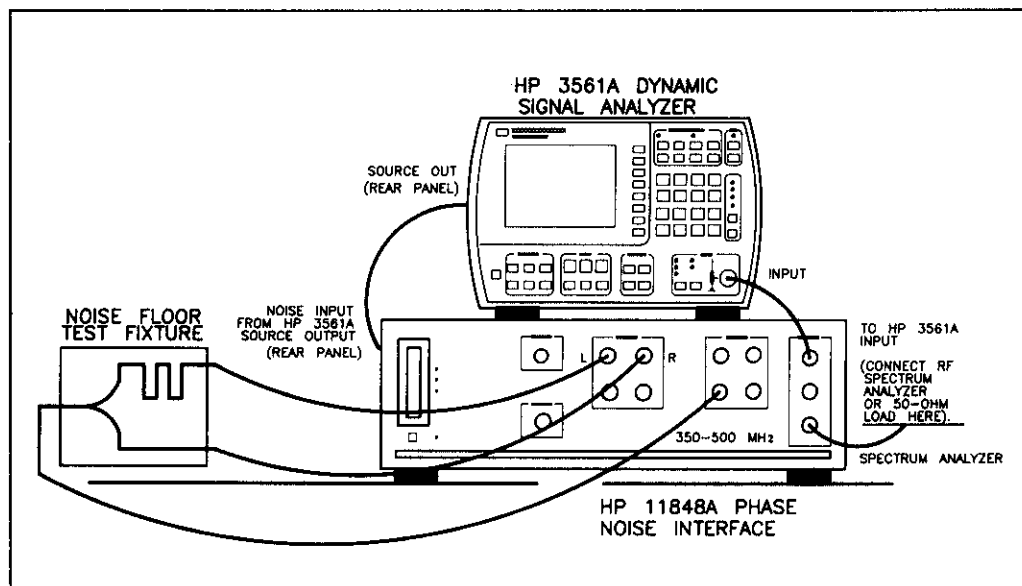

Figure 7. Noise Floor Test Setup
4. Connect the instruments as shown on the display and in figure 7.